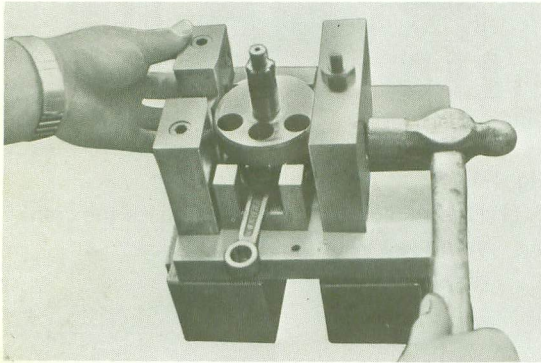

Fig. 4-17-14
- (3) Place the other crank wheel in position and lightly tap it onto the crank pin. Keep the crank wheel horizontal when tapping it in place. Position the slide plate against the rim of the crank wheel, and tap the slide plate until it contacts the crank wheel (to align the crankshaft temporarily) using a brass hammer. (Fig. 4-17-14)